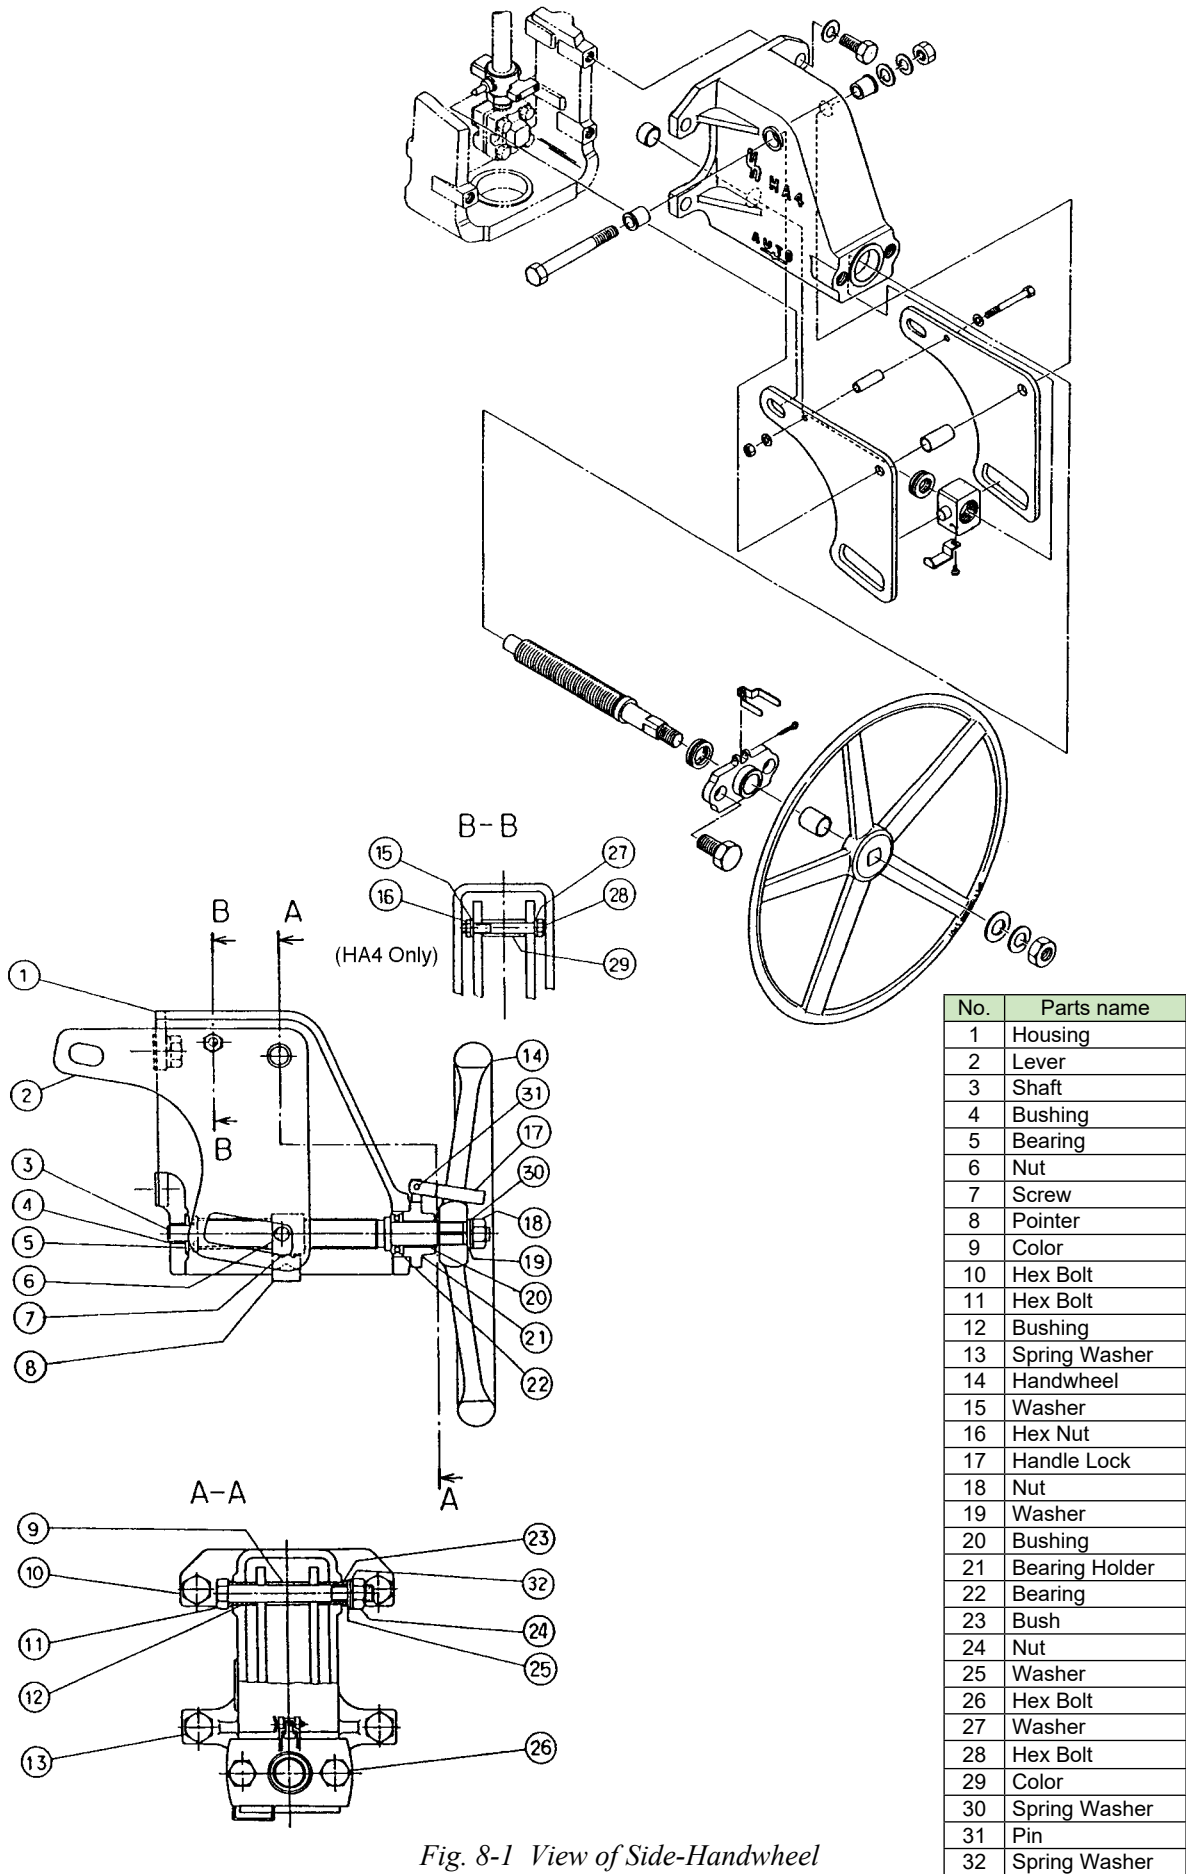

Fig. 8-1 View of Side-Handwheel
To install the side handwheel, refer to Fig. 8-1 and proceed as follows:
- (2) By turning the handwheel, set the pointer of the operation nut at the AUTO position.
- (3) Loosen the bolt (item number 6 as-show in Fig. 8-1) and widen the distance between levers.
- (4) Install the handwheel on the mounting pad at the back of the actuator, with the mounting-bolts.
- (5) Engage the holes at the end of two levers to the pointer boss and engage those of the other ends to the boss of the operation nut, and then tighten the bolt.
- (6) When the control valve is in the automatic mode of operation, set the pointer of the operation nut at the AUTO position and keep the handwheel locked.
(Refer to Fig. 8-1)
To assemble the side handwheel, refer to Fig. 8-1 and follow the disassembly procedure in the reverse order.